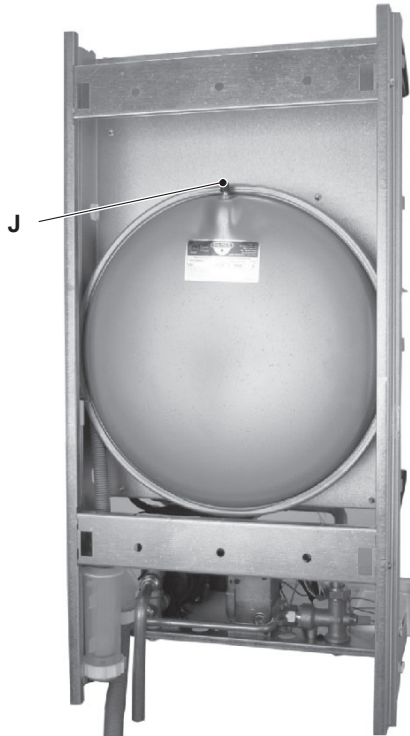

Figure 11.1 Rear view of the boiler
- 2 Remove the protective cap J (Figure 11.1) from the valve on the top of the expansion vessel and connect a suitable air pressure gauge.